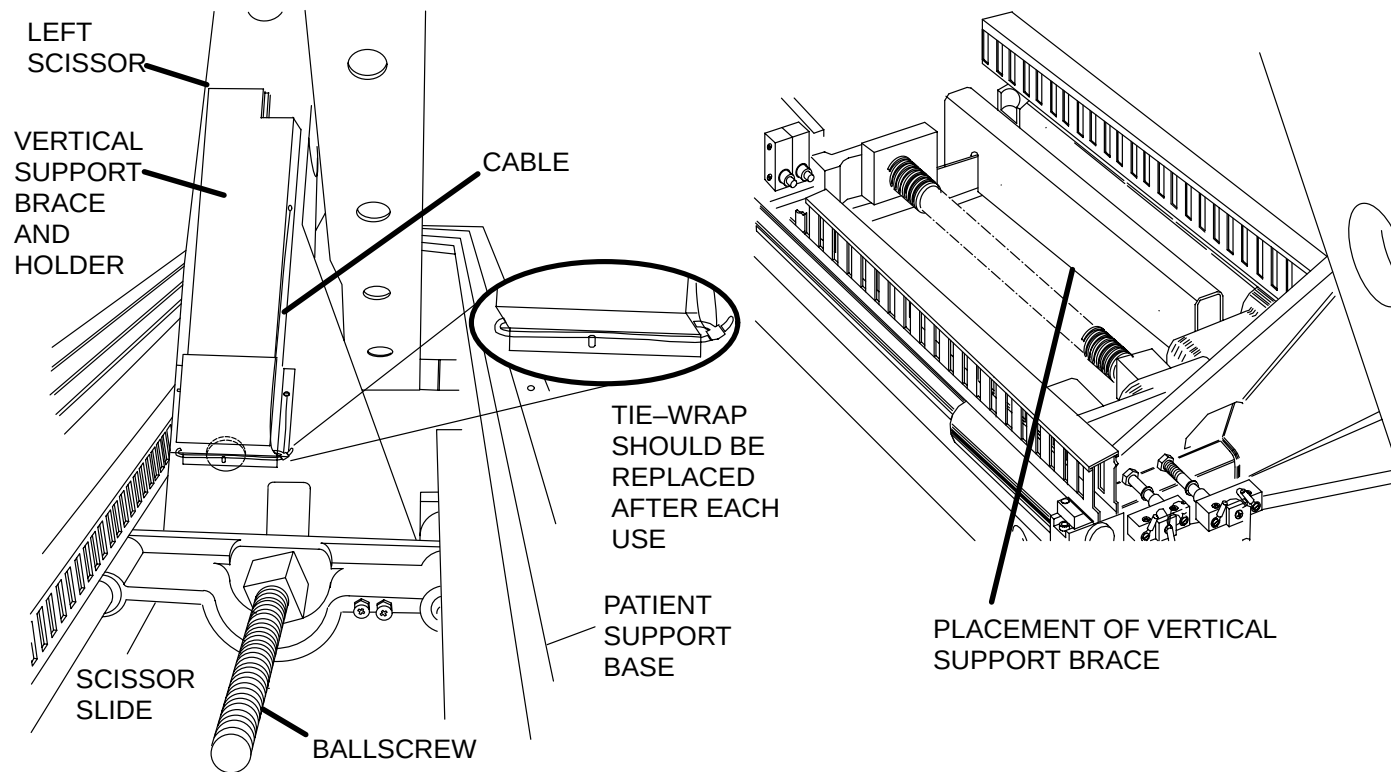

FIGURE 221 Metal Brace in Scissor Mechanism
5. Locate the green safety vertical support brace mounted to the face of scissor mechanism. Cut the tie-wrap that confines the brace cable and remove the brace from the holder. Install the brace as shown in Figure 221.
40. Remove the vertical support brace and return it to its holder on the face of the scissor. Refer to Figure 221.
41. Secure the brace cable with an 8 inch long tie-wrap fed through the bottom of the support brace holder. Refer to Figure 221.